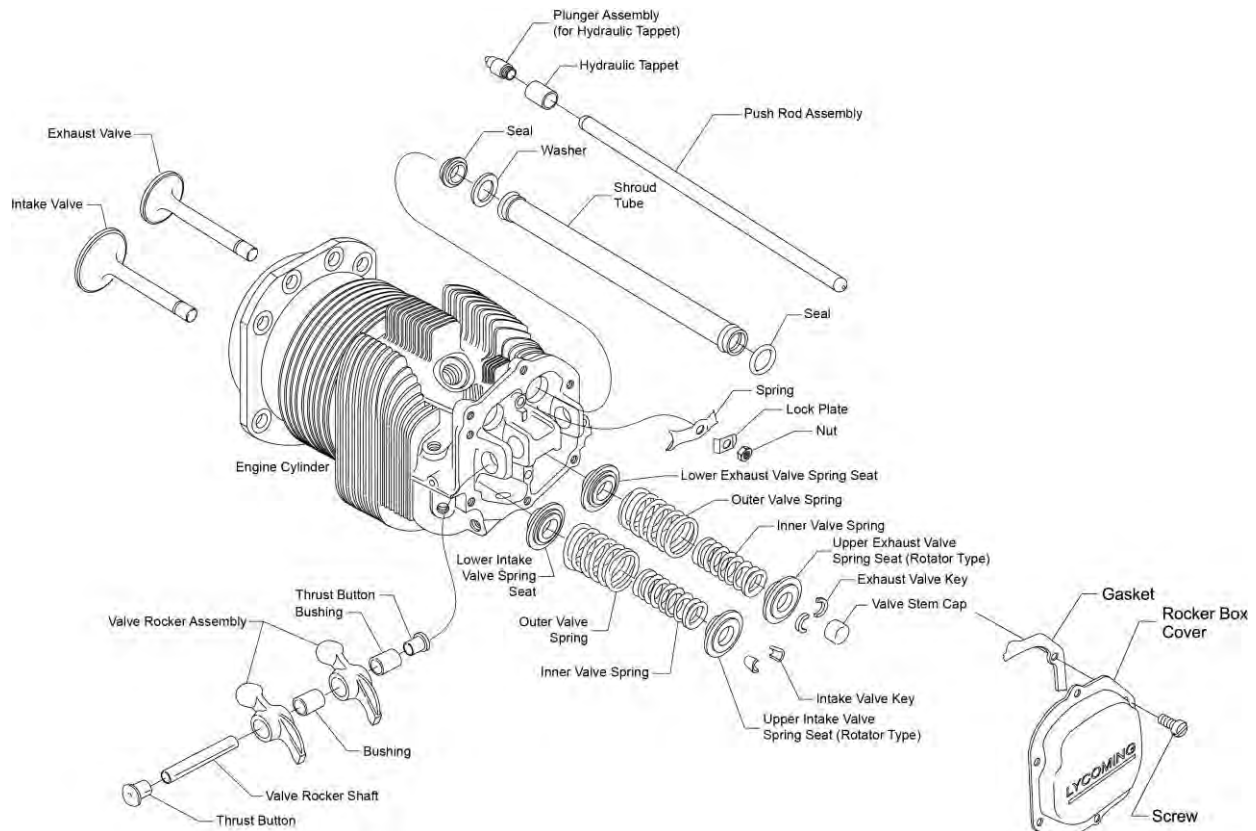

Figure 5
- E. Remove the screws from the rocker box cover (Figure 5).
- I. Push the valve rocker shaft (Figure 5) outward and remove of valve rocker assemblies and bushings.
- R. Remove the valve rocker shaft (Figure 5) from the engine cylinder.